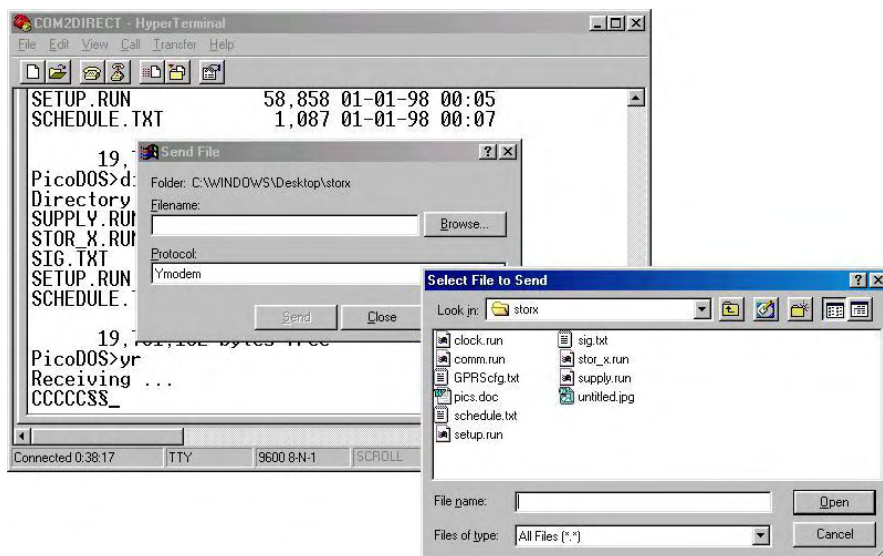

Figure 41 - HyperTerminal – Browsing to the folder containing the firmware update
11. In the **Send File** dialog, under **Filename:**, select **Browse...** and go to the directory containing the file you want to upload as shown in Figure 41. Select the file and click **Open**.